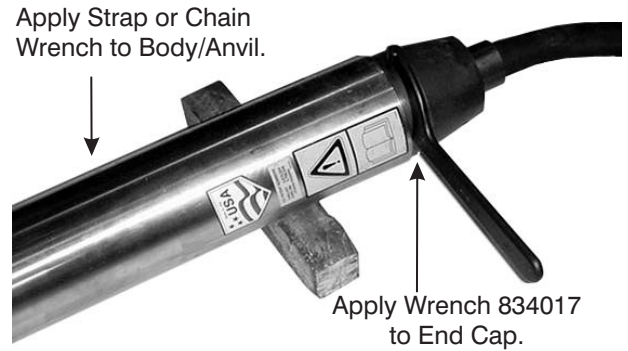

Figure 9-26. Secure End Cap to Body/Anvil.
8. Place the Hole-Hog on a level surface. Holding the Body/Anvil (1) with a strap wrench, use wrench P/N 834017 to tighten the End Cap (9), as shown in Figure 9-26.